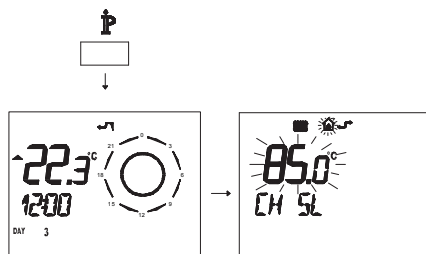

Fig. 7.22
- Press button **⏸** for more than 3 seconds to enter in **INFO** (Fig. 7.22) mode.